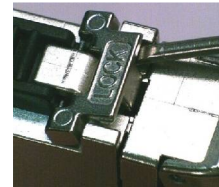

Figure 13
- 11) With rear body locked in, push cable forward into connector, giving 1/8 to 1/4 twist, which provides some wire slack between cable exit and wire carrier entry. Route the cable to fit into the rear body cavity as shown (Fig. 13). Trim off excess wire braids evenly with the end of the rear body (Fig. 13); cable may need to be lifted out of cavity to access all braids for trimming.